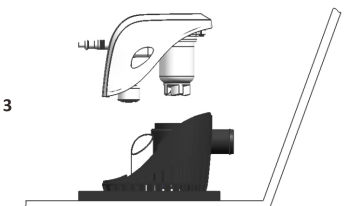

Figure 3
- Cleaning the tank / pump chamber, hold down the two sides of the buckle lift the pump can be carried out. See (Figure 3)